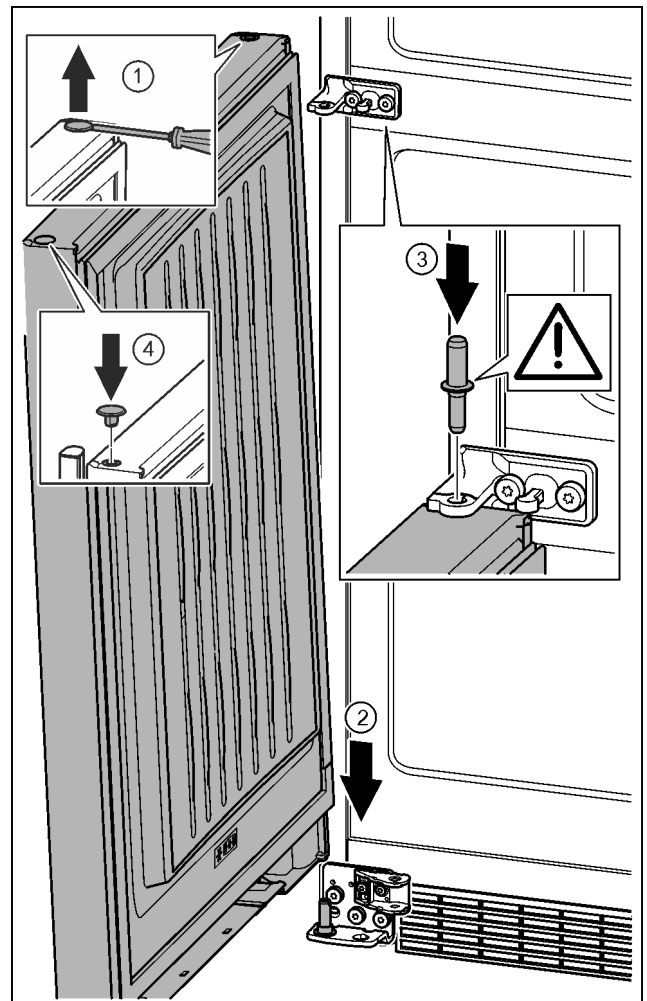

Fig. 35
- ▶ Carefully lift up the plugs with a slotted screwdriver and remove them. *Fig. 35 (1)*
- ▶ Position the door from above onto the lower bearing pins. *Fig. 35 (2)*
- ▶ Insert the centre bearing pin through the centre bearing bracket into the lower door. Make sure that the catch mechanism is pointing to the rear. *Fig. 35 (3)*
- ▶ Insert the plugs again on the other side of the door. *Fig. 35 (4)*